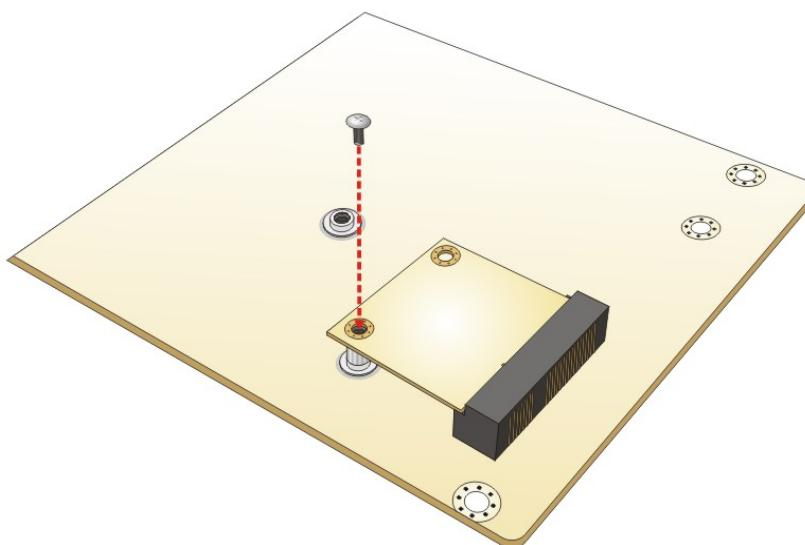

Figure 3-13: Securing the Half-size PCIe Mini Card
Step 5: Secure the half-size PCIe Mini card with the retention screw previously removed (**Figure 3-13**).